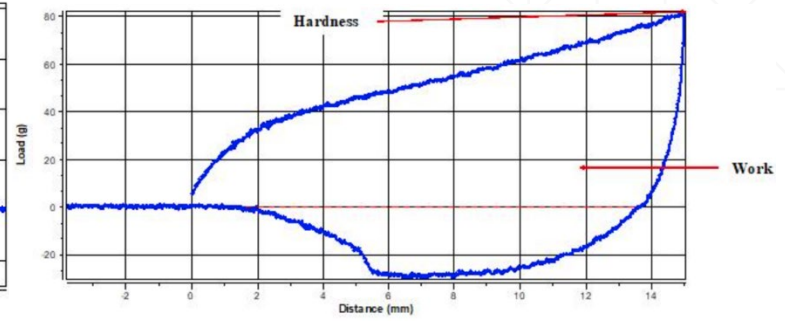

Figure 2
- Figure 2: Load vs. Distance graph shows the work done to penetrate the dough. The area under the positive peak reflects the energy needed to overcome internal dough bonds.